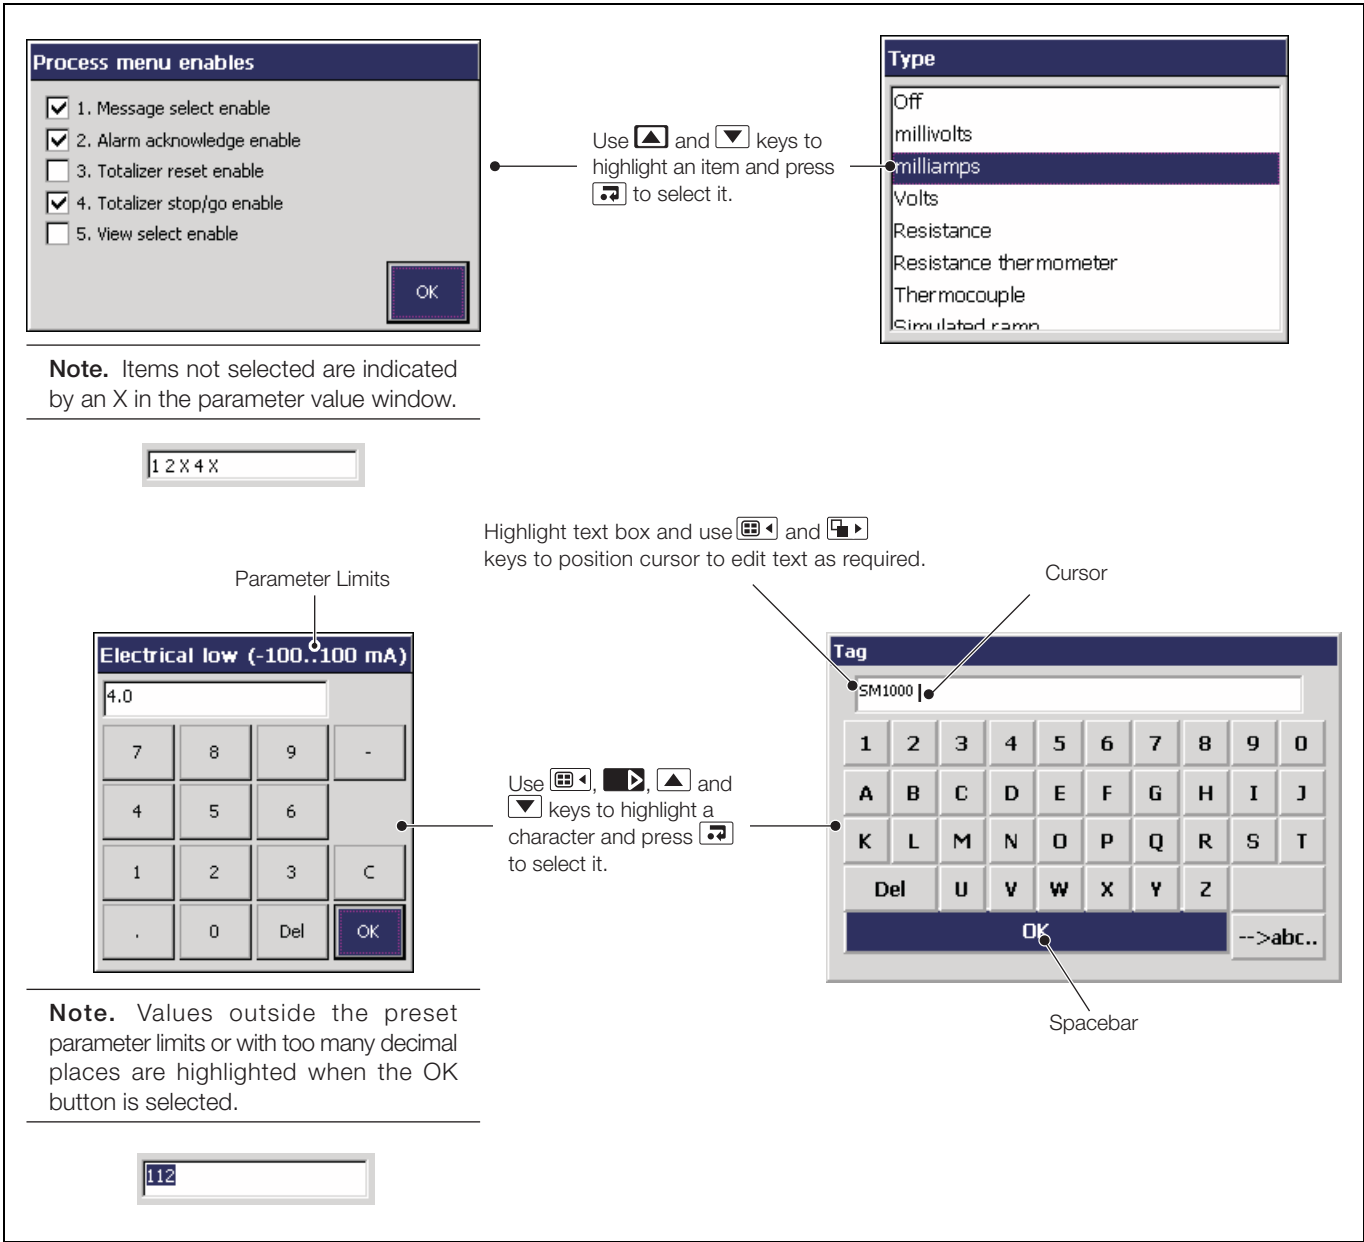

Fig. 4.6 Data Entry Dialog Boxes
- The appropriate data entry box is displayed automatically – see Fig. 4.6